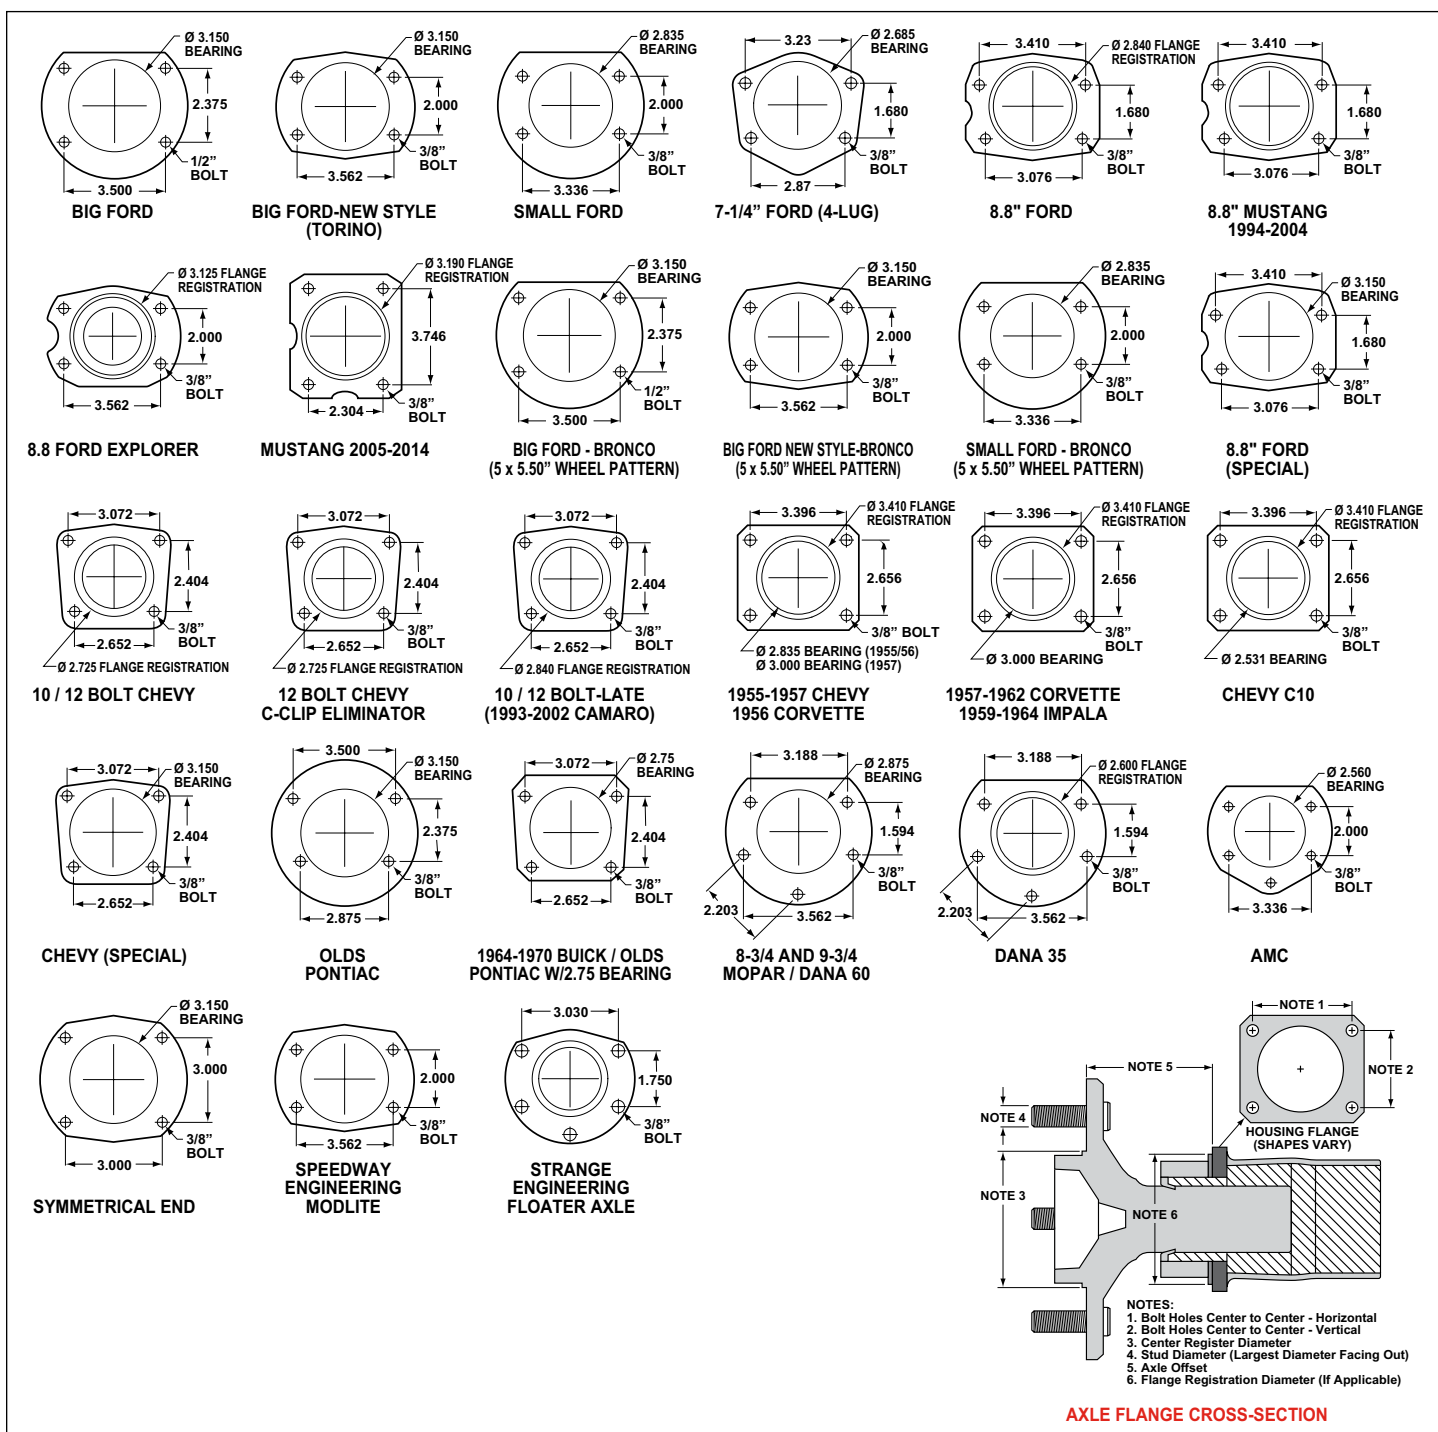

Figure 6. Rear Housing Flange Chart and Axle Flange / Offset Cross-Section
• Make sure this is the correct kit to fit the axle housing flange, not necessarily the rear end make. Many times aftermarket manufacturers put a different make of axle housing flange on the stock rear end housing (Figure 6). Example; Big Ford rear ends with Olds-Pontiac flanges, therefore, an Olds-Pontiac rear disc brake kit would be the correct kit to order. Also, shock clearance may be a problem. They may have to be modified and/or relocated to clear the Wilwood kit after final assembly.
- Dimension from wheel side of axle flange to wheel side of axle housing flange (see Figure 6, lower right hand corner). This dimension is critical to ensure proper alignment of the rotor to the caliper, and should match offset given in the kit description.